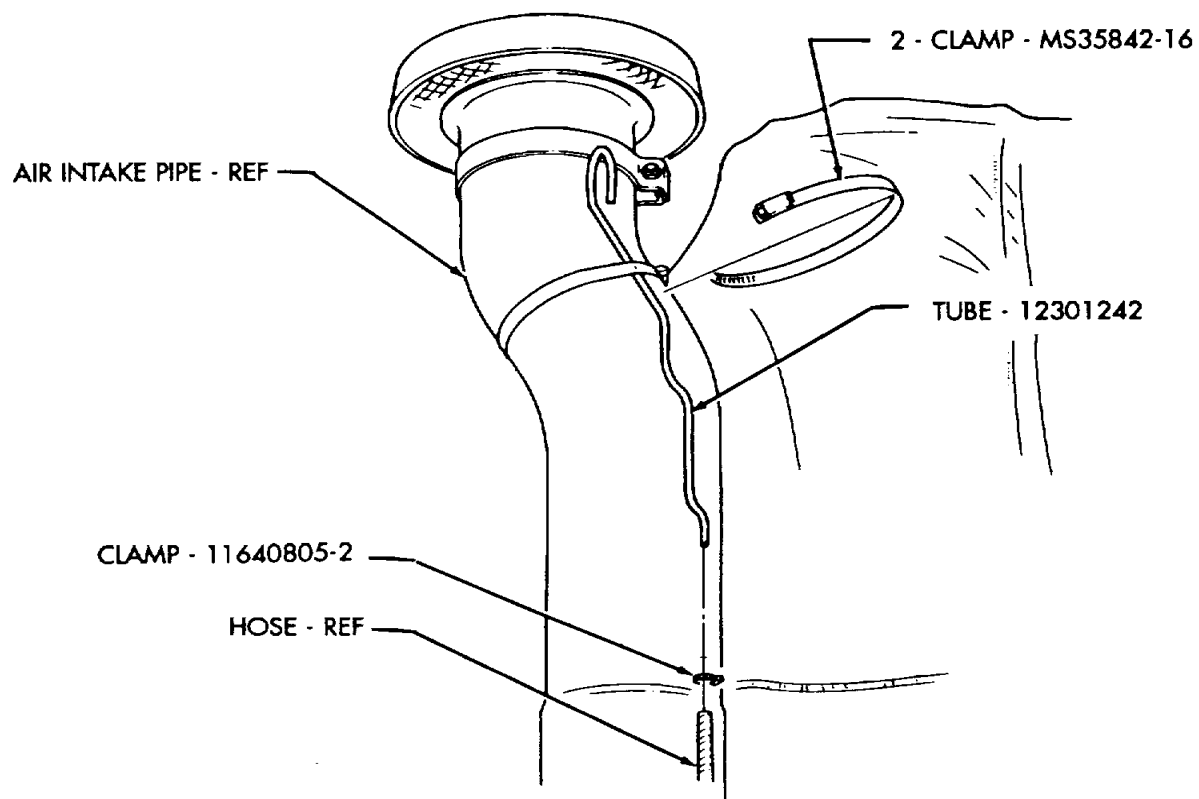

FIGURE 13
- (10) Install 12301242 tube on hose with 11640805-2 clamp as shown in figure 13.
- (11) Install tube on air intake pipe with two MS35842-16 clamps as shown in figure 13. Remove excess clamp ends.